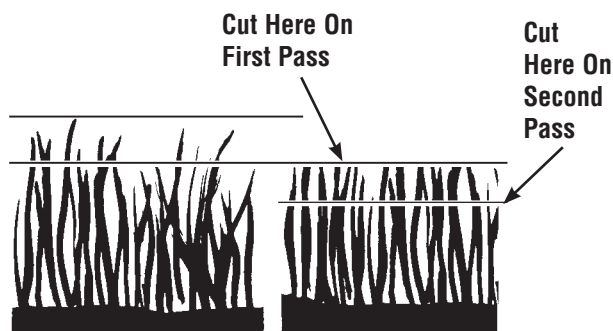
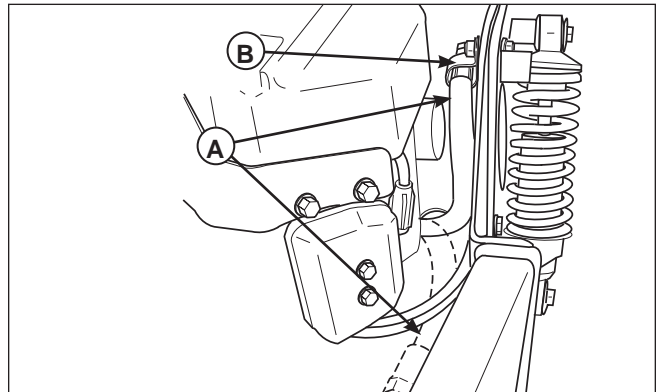

Figure 15. Incremental Cutting
Figure 18. Engine Oil Drain
2. Remove the oil drain hose (**A**, **Figure 18**) from the cable clamp (**B**) on the right-hand side of the frame and route the hose through hole in the engine deck as shown in **Figure 15**.